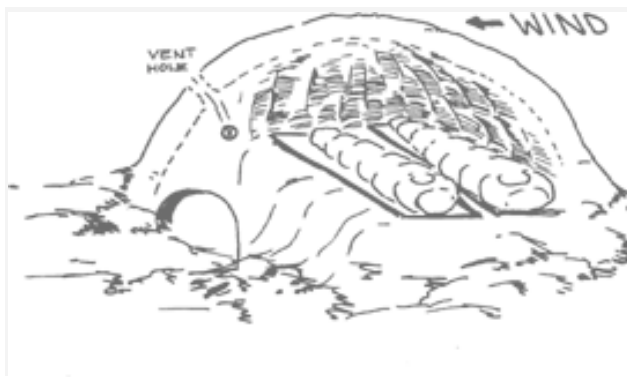

Figure 11-7: Vent hole in snow shelter.
6. A vent hole the diameter of a tennis ball should be poked through the ceiling before operating a stove inside the shelter. (See figure 11-7).